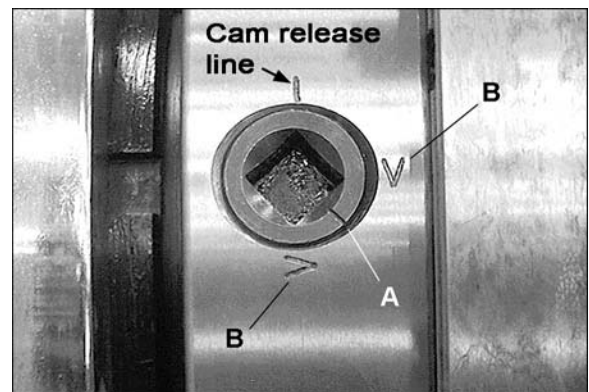

Figure 7 – Camlocks
1. Support the chuck while turning six camlocks 1/4-turn counterclockwise, using the chuck wrench from the tool box. See Figure 7.
5. Lift the chuck up to the spindle nose and press onto the spindle. Tighten in place by turning the camlocks 1/4 turn clockwise. The index mark (A, Figure 7) on the camlock should be between the two indicator arrows (B) when tight, as shown in Figure 7.
- If the index mark (A) is *not* between the two arrows, i.e. the cam turns beyond the indicator arrows, then remove the chuck and turn the camlock stud IN one full turn.